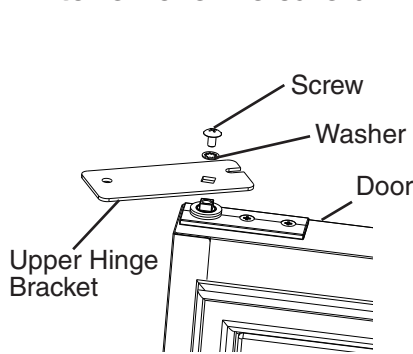

Fig. 14
- 7) While preventing the upper hinge bracket from rotating, remove the upper hinge bracket from the spring cartridge. See Fig. 14. Note which side of the upper hinge bracket is facing up.